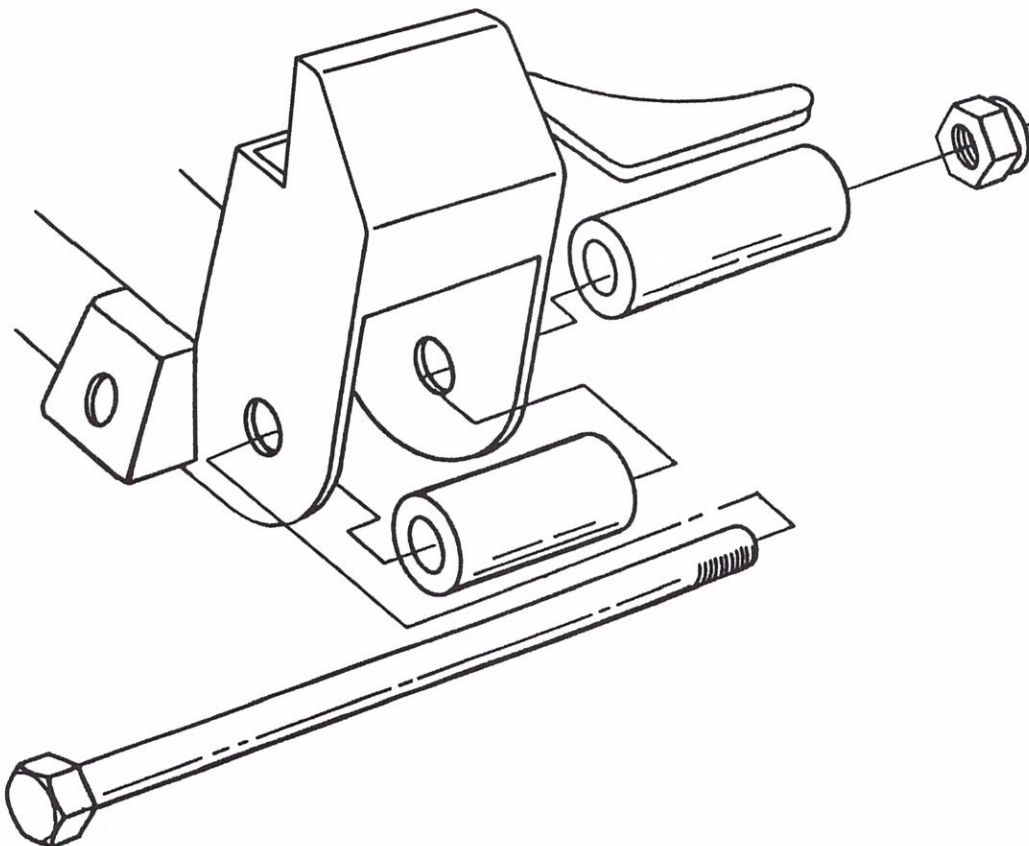

Figure 2
4. If you purchased a complete I.F.S. Package it was supplied with Full Lower A-Arms. Begin by installing the Lower A-Arms onto the crossmember. The holes where the lower control arms attach to the Crossmember must be enlarged to 5/8". Mount the Crossmember Spacers and the Rear Spacers which were supplied with the Lower Control Arms onto the Crossmember as shown in Figure 2 using the supplied Inner Bushing Bolts, Nuts and a temporary spacer under the Nuts. DO NOT use the A-Arms for this operation as the welding heat will melt the rubber bushings. Tighten the Bolts and Nuts tight. Weld the Rear Spacers to the Crossmember all around. Weld the Crossmember Spacers as far as possible inside the crossmember on both ends. Position the Gussets horizontally, not vertically, against the Rear Spacers and the back of the Crossmember. Weld Gussets to Spacers and Crossmember. When it cools, remove the bolt.